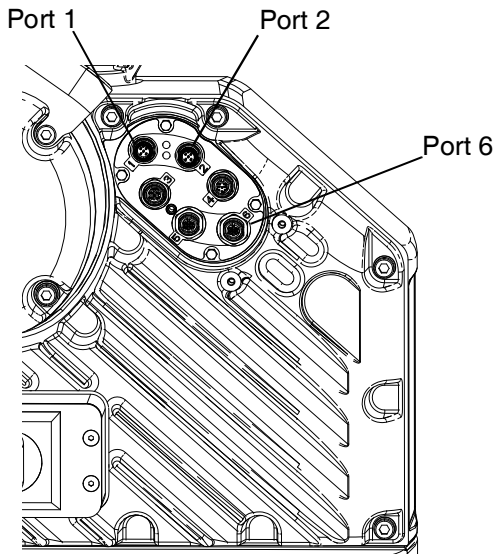

Fig. 23: Driver Port Locations
6. Using the four 10-32 mounting screws included with the kit, mount the base (S) in the holes you drilled.
7. Reattach the CGM (R) on the base (S) with the two screws (T) that were removed in step 5.
8. Reattach the access cover (U).
9. Connect the CAN cable included in the kit to either port 1 or port 2 (whichever is available) on the driver. See **Figure 23**.